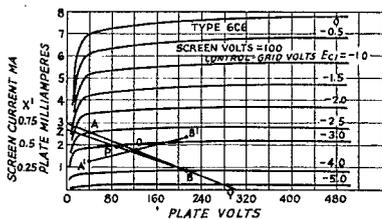
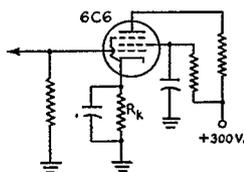

Fig. 3 — Average plate characteristics for a type 6C6 tetrode.
Fig. 4 — Typical resistance-coupled pentode amplifier circuit.  $R_k = 1500$  ohms.  $R_p = 100,000$  ohms.
The following procedure is used to locate the operating point of a resistance-coupled amplifier which uses a 6C6 pentode. The characteristic curves for this tube are shown in Fig. 3 while the diagram appears in Fig. 4.
2) Assume two values of bias voltage along the load line. These are points *A* and *B* at 2.5 and 4 volts respectively along load line *XY* shown in Fig. 3.
At this point it is necessary to consider the effect of screen current flowing in the cathode resistor. In the case of the 6C6 this current is 25 per cent of the plate current as shown by the screen-current scale in Fig. 3. Thus, in order to anticipate the true operating point on the plate current-plate voltage characteristics, the effective cathode resistance must be found by increasing the value of the cathode resistor by the same percentage as that by which screen current increases the total cathode current. Consequently, in drawing the bias line the slope of the line is determined by
9) It is possible also to draw a screen load line on a characteristic curve as demonstrated by line YZ in Fig. 3. One point of the screen load line is of course at the supply-potential point on the plate-voltage coördinate. A second point is point P which is the screen voltage and grid-bias point. In this case the screen voltage is 100 and the grid bias  $-3.187$  volts.